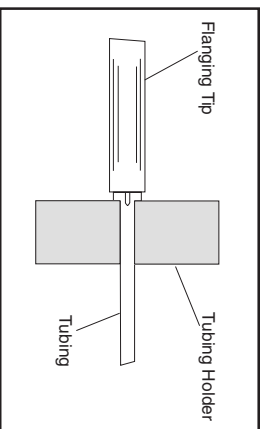

Figure 3
3. Firmly pinch the tubing holder between the fingers with one hand and with the other, engage the heating iron tip with a slight orbital movement at first, and then squarely into the tubing (Figure 3).